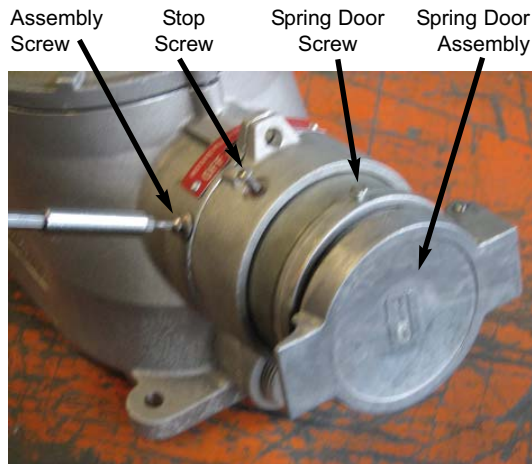

Figure 1
- a. Loosen spring door screw (Figure 1).
- b. Unthread the spring door assembly (Figure 1).
2. Remove stop screw (Figure 1).
3. Remove assembly screw (Figure 1).